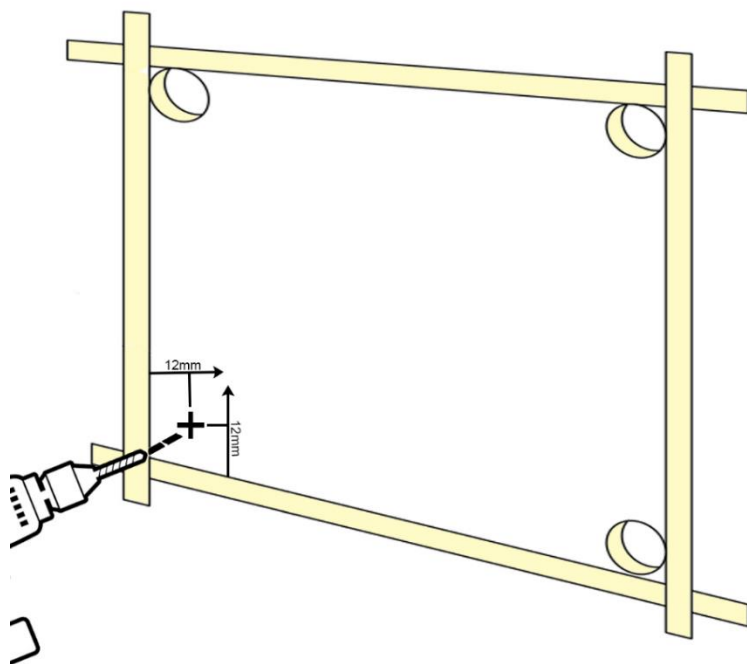

Fig 7
- If you intend to use a jig saw/nibbler we would recommend that you measure 12mm from the each of the corners horizontally and vertically (as picture below) and drill a pilot hole (using a hole saw/large drill bit) and then cut the aperture for the window. (Fig 7)